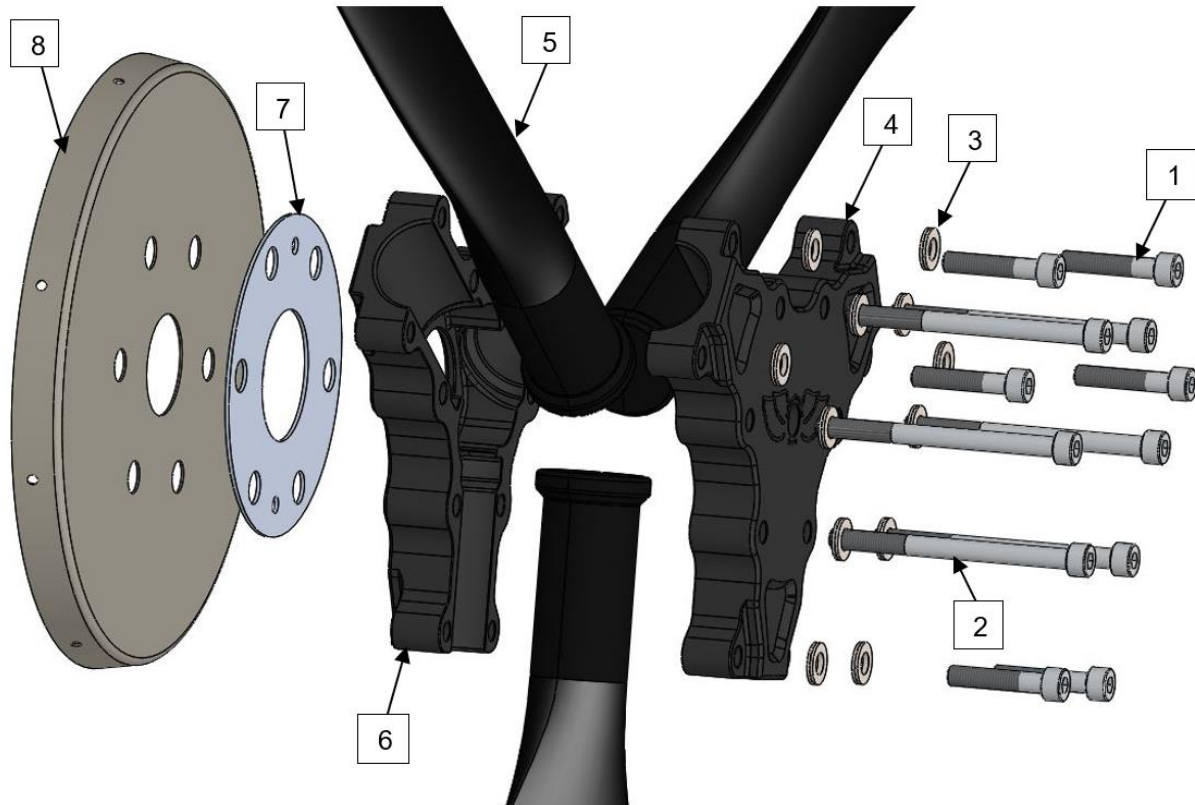

Figure 1: Propeller Assembly with A-1879 Hub Shim
1. *Ensure the aircraft magneto switch is in the "Off" position and the both magnetos are grounded any time the propeller is handled.* Chock the aircraft wheels to prevent movement. Clean dirt and oil residue from the engine flange. Refer to **Figure 1.** for views of the two piece hub, hub shim, and blade.
2. Place spacer (if required) and rear spinner bulkhead on the propeller mounting flange. The A-1879 Hub Shim is next installed between the rear spinner bulkhead and hub mount. See **Figure 1.**